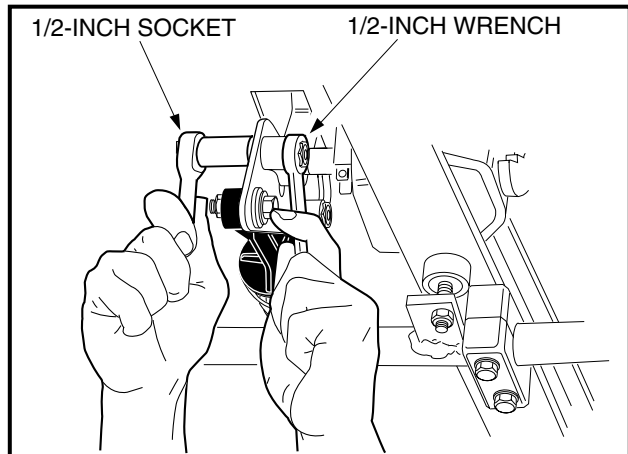
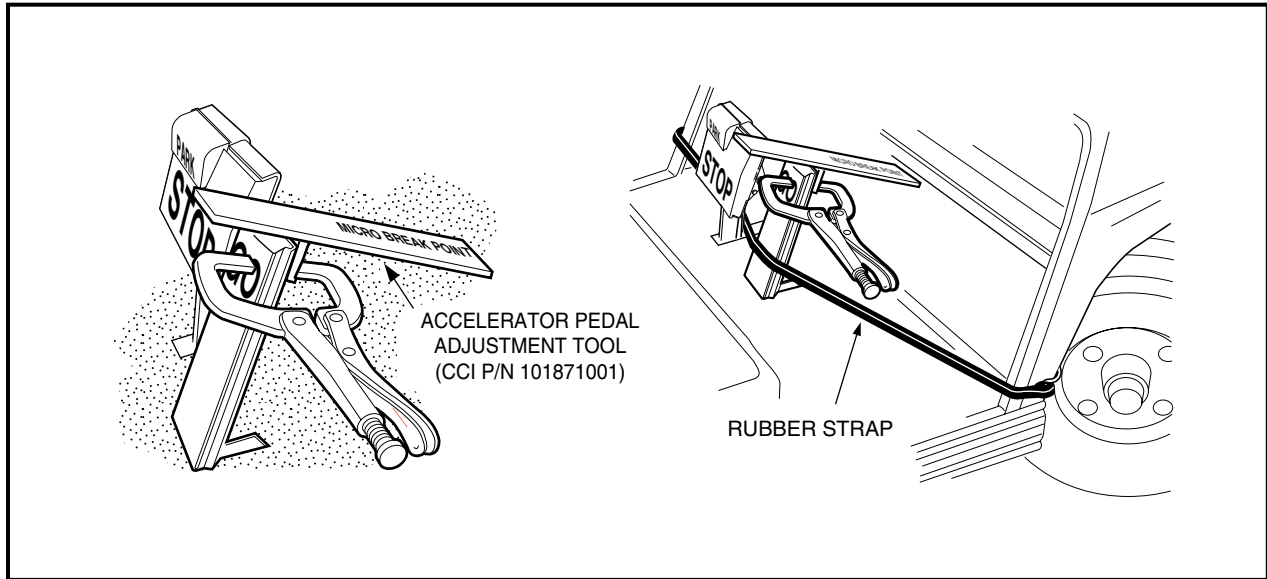

Figure 5-28 Accelerator Pedal Height Adjustment
Figure 5-29 Accelerator Pedal Height Adjustment
- 4.1. Loosen the nut and bolt (**Figure 5-28, Page 5-18**) securing the accelerator pedal to the pivot plate. Clamp the accelerator pedal adjustment tool (CCI P/N 101871001) to the accelerator pedal, with the end marked *accelerator pedal height* closest to the floorboard. Depress the accelerator pedal until the end of the tool rests against the floorboard; pedal height should be 5-5/8 inches (14.3 cm). Use a rubber strap to hold pedal in position against the floorboard and then tighten nut to 26 ft-lb (35.3 N·m) (**Figure 5-29, Page 5-19**).